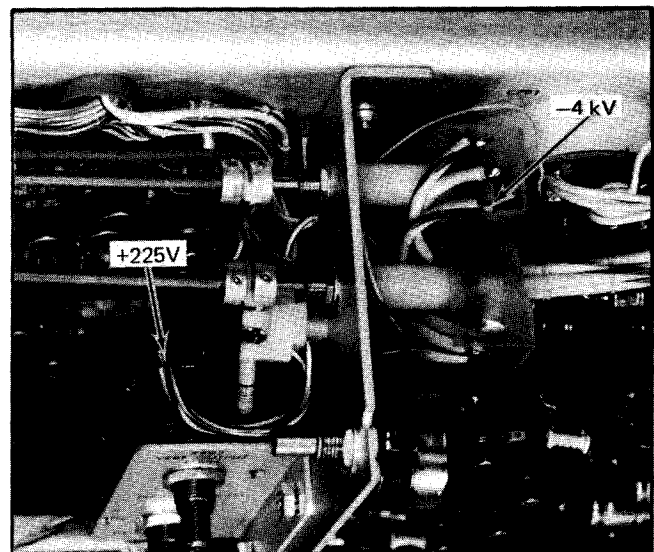

Fig. 5-3. Location of high voltage test points on right side of instrument.
- Connect the positive lead of the meter to the arm of the INTENSITY control, R883 (see Fig. 5-3), connected to the white and purple wire.